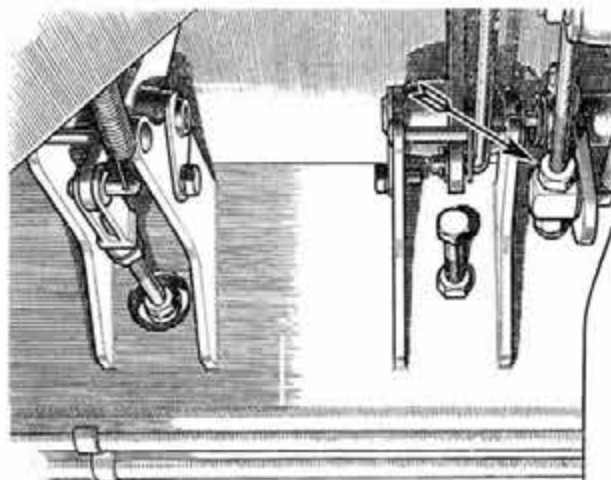

Fig. E.2.
1. At the screwed rod shown in Fig. E.2. In this case, the locknut, is slackened back and the  $\frac{3}{8}$  in. (19 mm.) clearance is set at this point.
2. At the clutch stop shown in Fig. E.2, when the clutch is completely withdrawn there must be a further movement of  $\frac{1}{2}$  in. (12.7 mm.) at the pedal.